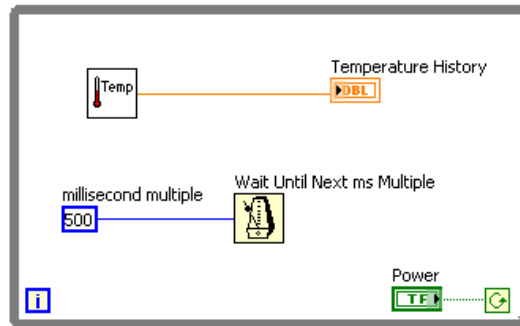

Figure 7.6
2. Enclose the two terminals in a **While Loop**, as shown in the block diagram (Figure 7.6).
4. Wire the objects as shown in Figure 7.6.